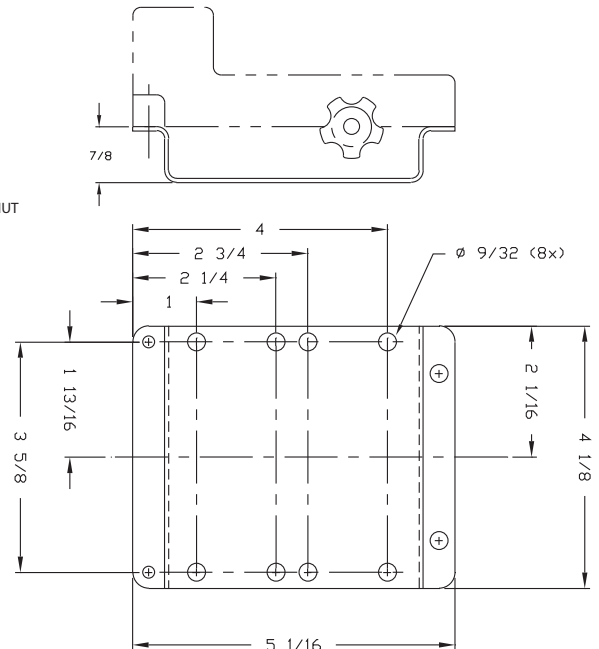

Fig 2
- 6.0 See Figure 2 for Mounting Base Q647 Bolt Hole Pattern.